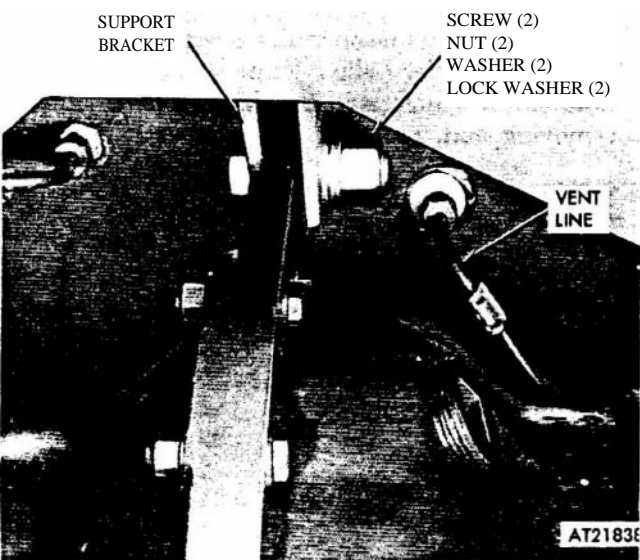
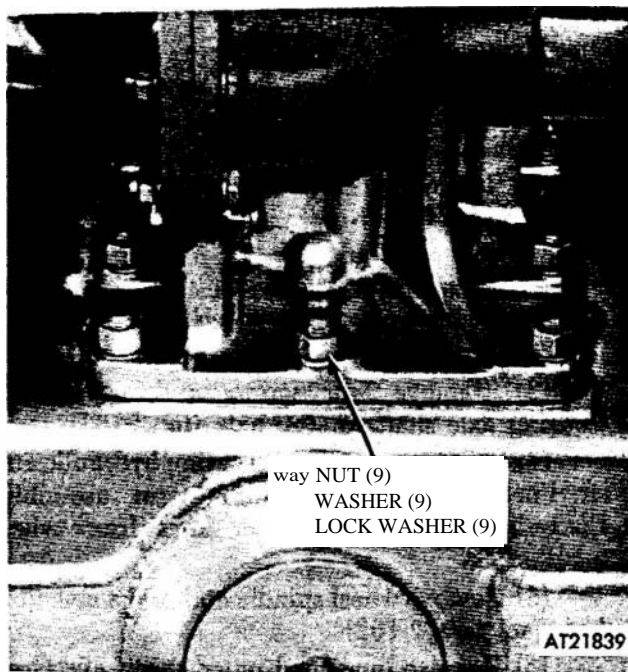

Figure 2-185. Differential to support bracket, removal and installation.
Figure 2-186. Front differential removal and installation.
(6) Disconnect front axle assemblies (refer to para 2-148).
(7) Disconnect vent line from elbow on differential (fig 2-185) and remove elbow.
(8) Place a suitable jack beneath the differential assembly and apply a slight pressure to the assembly.
(9) Disconnect differential (fig 2-186) from bulkhead and transfer case by removing nine nuts, washers, and lock washers.
(10) Disconnect differential from support brackets (fig 2-185) by removing two screws, nuts, washers and lock washers.
(11) Remove support brackets (fig 2-185) by removing two screws.
(12) Slide differential forward to clear transfer case studs and front differential sliding clutch.
(13) Lower differential on jack and slide out from under vehicle. Remove and discard gasket on transfer case.
(1) Using a suitable jack, raise front end of tractor. Block front of tractor securely and remove jack.
(2) Clean mating surface of bulkheads and transfer case.
(3) Place front differential on a suitable jack and position under vehicle.
(4) Position new gasket on transfer case mounting studs.
(5) Raise jack and carefully slide differential rearward ensuring that input shaft engages front differential sliding clutch and mounting studs.
(6) Secure front and rear differential mounting lugs to support brackets (fig 2-185) using two screws, nuts, washers, and lock washers.
(7) Secure differential to bulkhead and transfer case (fig 2-186) using nine nuts, washers, and lock washers.
(8) Install elbow and connect vent line to elbow on differential (fig 2-185).
(9) Install front axle assemblies (refer to para 2-148).
(10) Fill transfer case and differential with lubricant (refer to LO 9-2320-242-12).
(11) Lower front end of vehicle to ground.
(12) Test drive vehicle to check operation of front differential (refer to TM 9-2320-242-10).